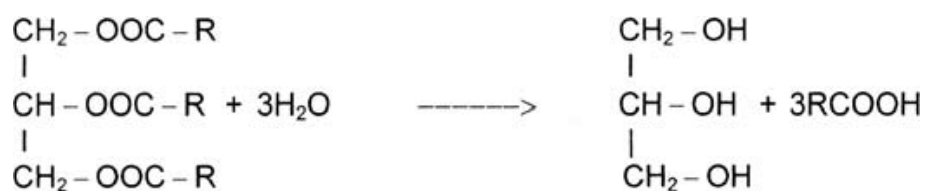

Figure 1: Chemical reaction of Hydrolytic Rancidity
2.1.1. Hydrolytic rancidity (HR): This is caused by the hydrolysis of the fats into free fatty acids (FFAs) and glycerol by the action of enzymes. The enzyme brings about decomposition of fats. The enzyme lipase is the main cause of HR. It can be prevented through heating of the fat to destroy the enzyme and prevent hydrolysis. Contaminating microorganisms may also produce lipase and these can similarly be destroyed with sufficient heating. Fats may become rancid by HR when the triglycerides react with water (**Figure 1**).